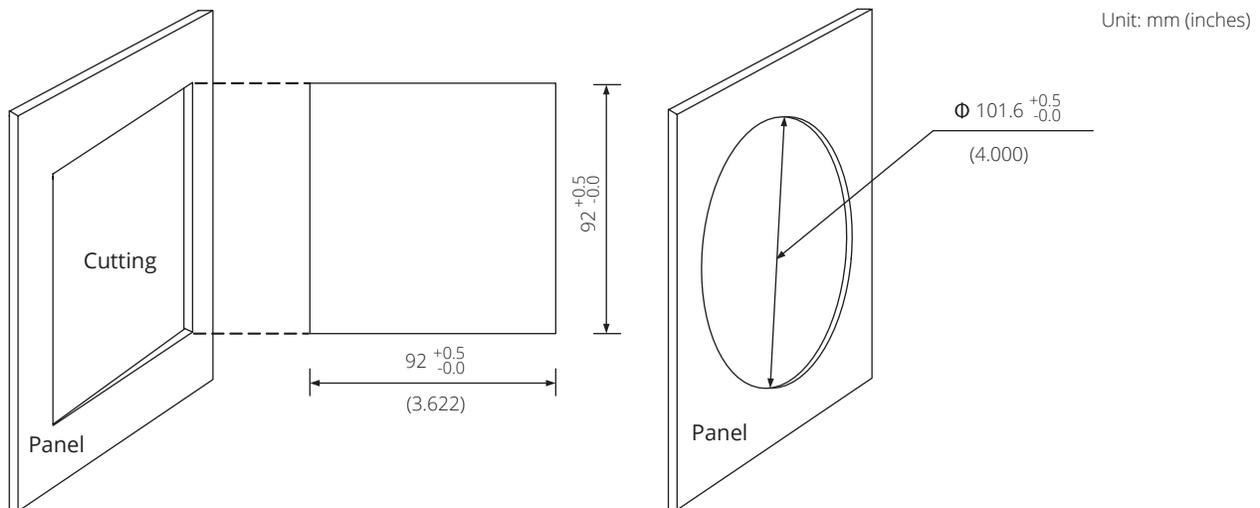

Fig 2-4 Panel Cutting
1. Cut a square or round hole on the panel of the switch gear. The cut-out size is shown in Fig 2-4.